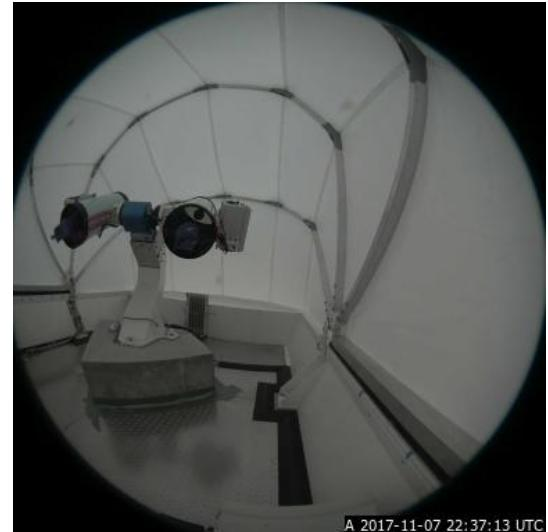

Figure 3.2: An example view from webcam A (in N corner of the enclosure looking to the SSW).
- Thumbnail images from the webcams. Clicking on the thumbnail images brings up larger images, examples of which are shown in Figures 3.2, 3.3, 3.4, and 3.5. These images are useful for checking the status of the enclosure and telescope. At night, one needs to switch on the enclosure lights (see §3.2) to see anything in the webcams.